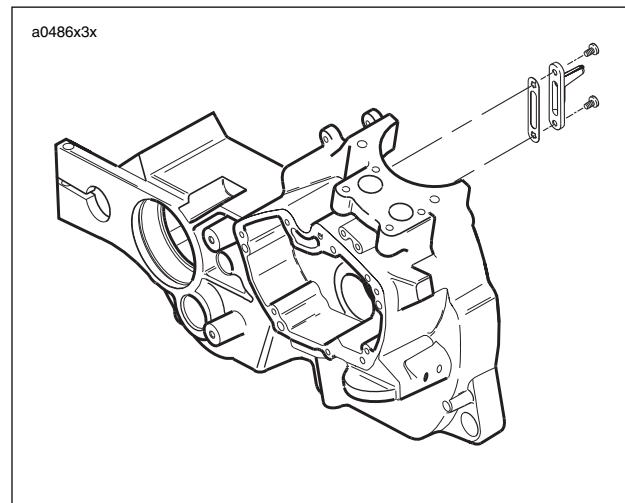

Figure 3-123. Piston Oil Jet Assembly
1. See Figure 3-123. Remove two TORX screws from piston jet assembly to remove piston jet from right crankcase.